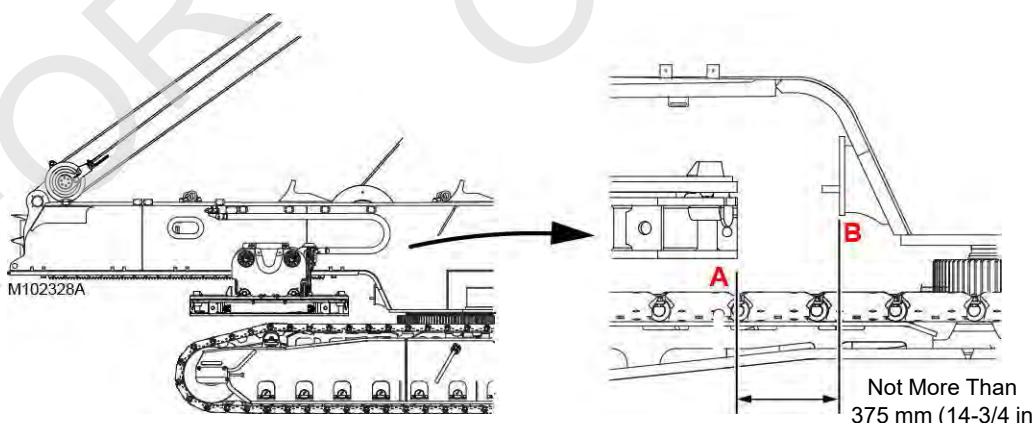

Figure 4-83
- Do not remove the counterweight boxes until the counterweight tray is traveled to the position shown in Figure 4-83. The crane will tip.
- Using the switch on the remote control, travel the VPC trolley forward until the distance from the front edge (A, Figure 4-83) of the counterweight tray to the edge (B) of the rotating bed is not more than the dimension given.
- Loosen the turnbuckles (9, View B) and remove the counterweight chain assemblies (7) from the counterweight boxes and the counterweight tray.